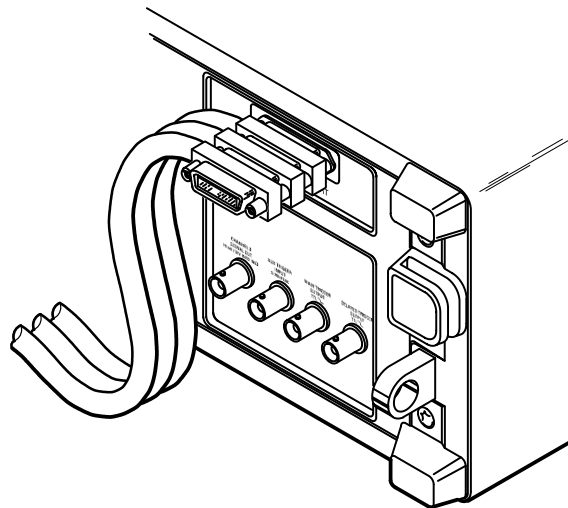

**Figure 3-48: Typical GPIB Network Configuration**
- There must be only one cable path from each device to each other device on your network (see Figure 3-48) and you must not create loop configurations.